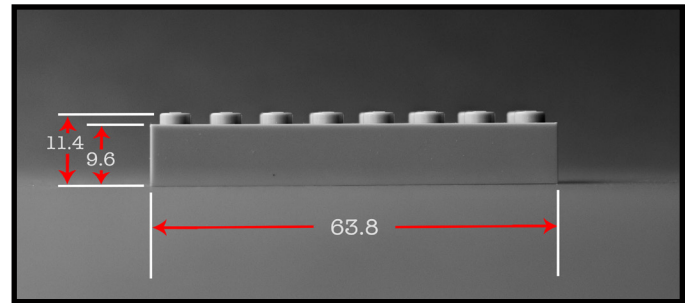

Figure 7.36 - Dimensioned Lego Brick
1. While we looked at the width and the height of the Lego brick in figure 7.36, to fully dimension the object information needs to be included for the pegs on top. Are the pegs an example of positive or negative cylinders?